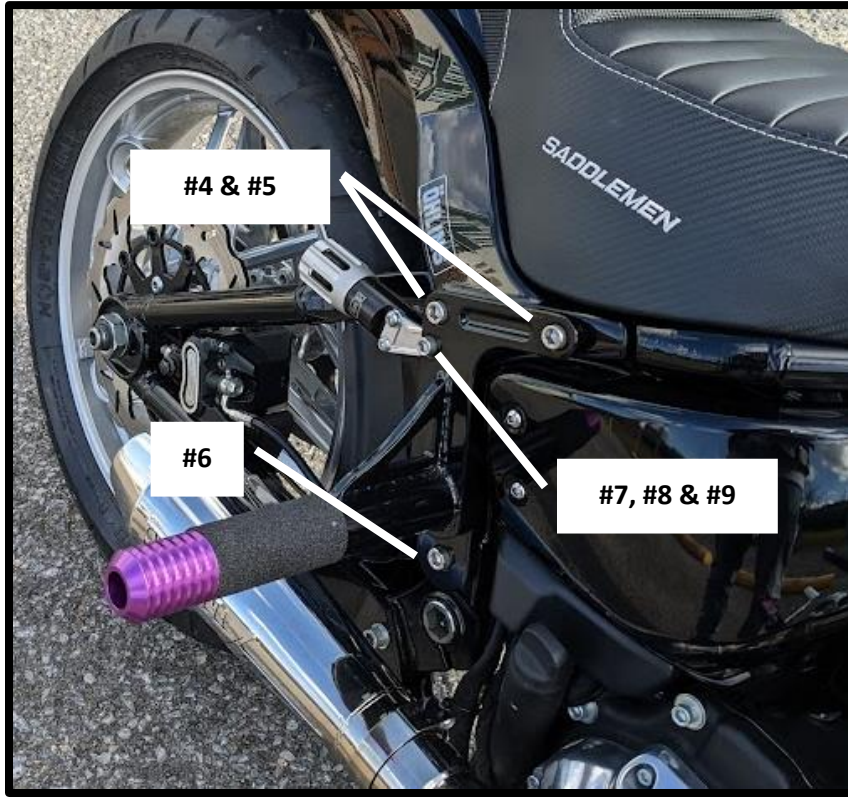

Figure 2
2. Apply small amount of anti-seize on bolts #4 & #5 and mount the brake side OG Rear Crash Bar as shown on **figure 2**. Torque to 25-30 ft-lbs.
3. If you are using our **OG Ohlins 18+ Softail Shocks External Preload Master Cylinder Mount**, use the provided hardware to mount it as shown on **figure 2**. Torque to 15-20 ft-lbs